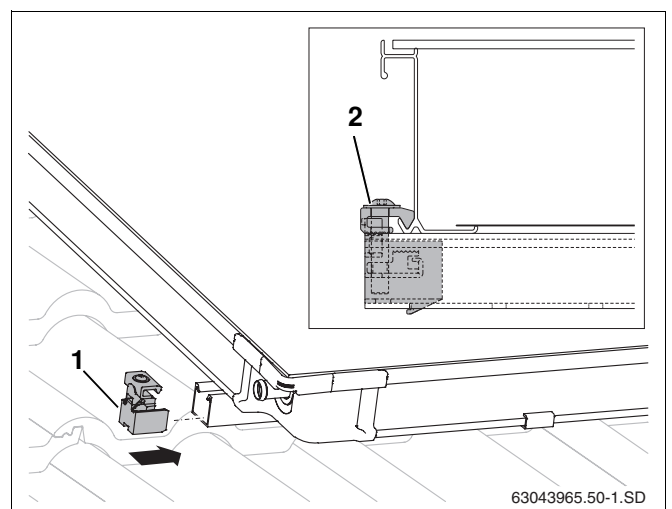

Fig. 49 One-sided collector clamp (left)
- Push single-sided collector clamp (Fig. 49, **Item 1**) into upper and lower profile rails.
- Push collector clamp up against the collector frame and screw in place using size 5 spanner (Fig. 49, **Item 2**).